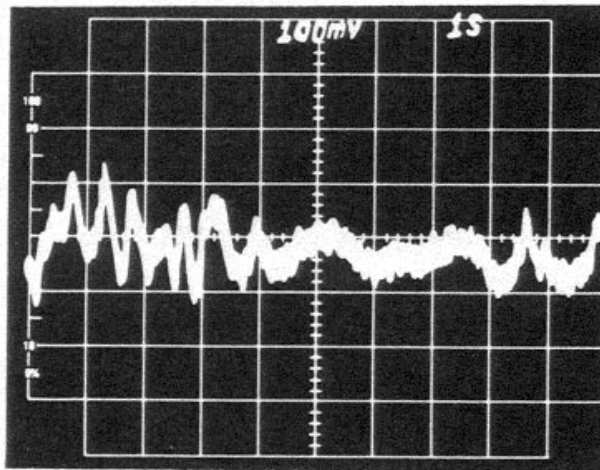
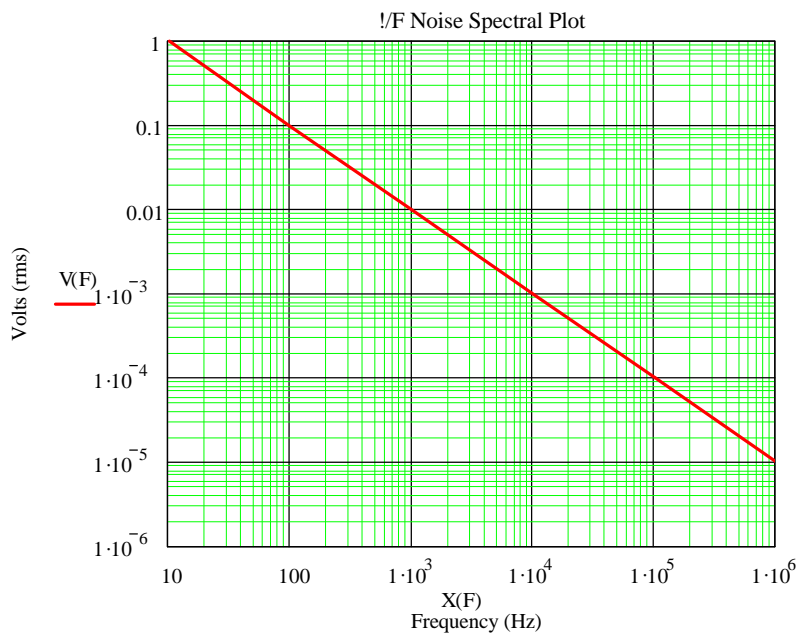

Figure 6. Time domain representation of $1/F$ noise.
Figure 7. Frequency domain plot of 1/F rms voltage noise.
A. The time and frequency domain characteristics are shown in Figure 6 and Figure 7, respectively. The frequency domain characteristic shows that it is bandwidth limited and typically called $1/F$ or pink noise and is only of concern in low frequency measurements. $1/F$ noise is found in resistors, diodes, switches, and transistors, among other components.